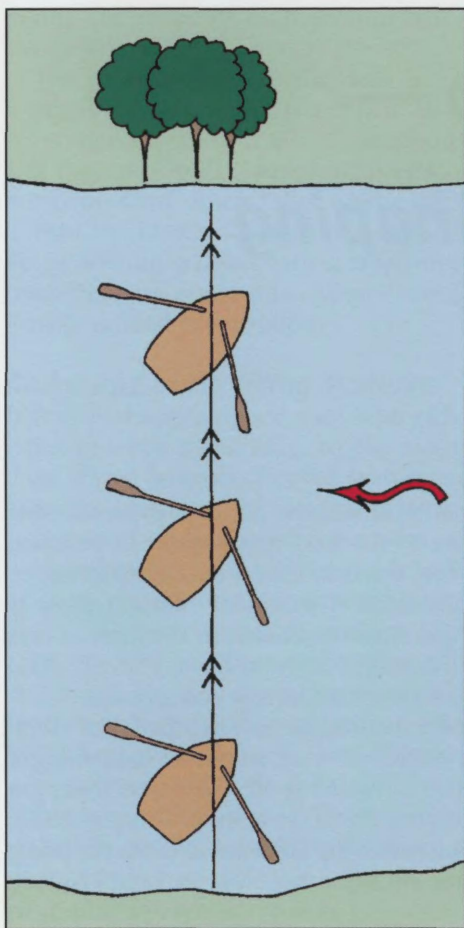

Fig 20.1 Rowing across a current: the theory.
Fortunately for those of us who are not of a theoretical turn of mind, the situation on the chart is, at its simplest, an exact mirror of what would be happening if the scale of events were small enough for you to watch it all like a god from the clouds. In fact, you can see the correction working if you are rowing a dinghy across a flowing river (Fig 20.1). Under those circumstances the adjustment is usually made instinctively. You eyeball your destination tree on the other side, and start rowing across. As you go, you notice that your tree is moving against the trees behind it, so you choose a big one on the ridge behind the shore, and set your destination up in line with it as a transit. Once you've done that, the rest is easy. You must now head up into the stream so as to keep the two trees in line. If you judge your angle correctly, you'll crab, or 'ferryglide' across the river, steering uptide of your destination, yet arriving at it perfectly.
- Of course, in reality the current runs all the time. The dynamics of the true situation are that the boat starts at a , 'steers' off in a direction parallel to cd on a line called 'course to steer', then proceeds for the designated period of time towards b *never leaving the ground track*, as in fig 20.1.